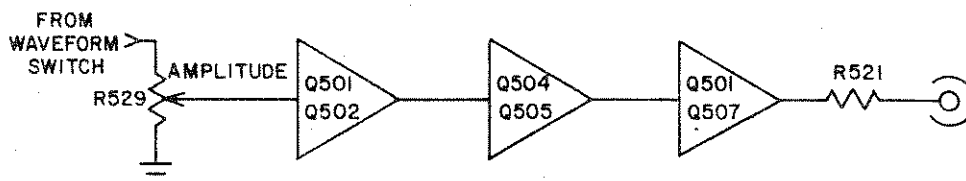

Figure 9. Output Amplifier
4.8 OUTPUT AMPLIFIER (See Figure 9)